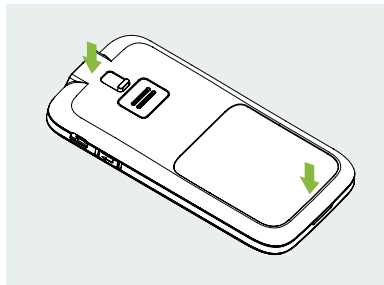

Figure 7
**4** Replace the Battery Cover: Replace the battery cover to the position shown in Figure 7. The battery cover should be attached securely around the perimeter of the PDA, and you may hear a snap sound as the hooks engage.